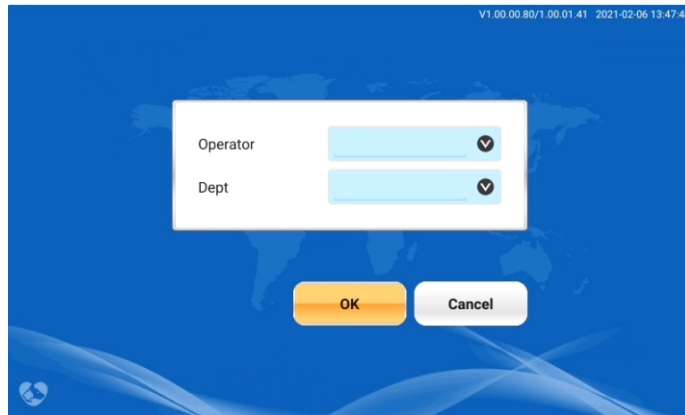

Figure 5-9
- 7) During the testing process, user can input information of operator and sample. Please follow the steps: Press “Operator” icon to enter into screen as Figure 5-9.
- 8) Click the input field, when the cursor appeared, input the information of "Operator", "Department", then click "OK", seeing Figure 5-9.